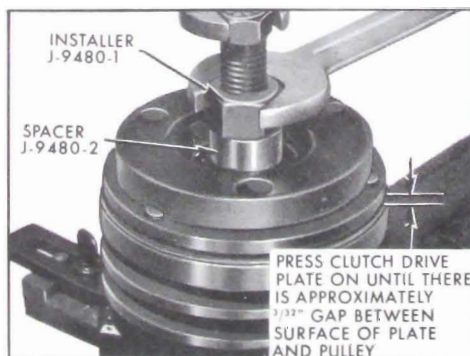

Figure 11-102—Installing Clutch Drive Plate
3. Place Spacer J-9480-2 on Clutch Drive Plate Installer J-9480-1 and thread installer on end of compressor shaft. See Figure 11-102. Press the clutch drive plate on shaft until there is approximately $3/32''$ space between the friction faces of the drive plate and pulley as shown in Figure 11-102.